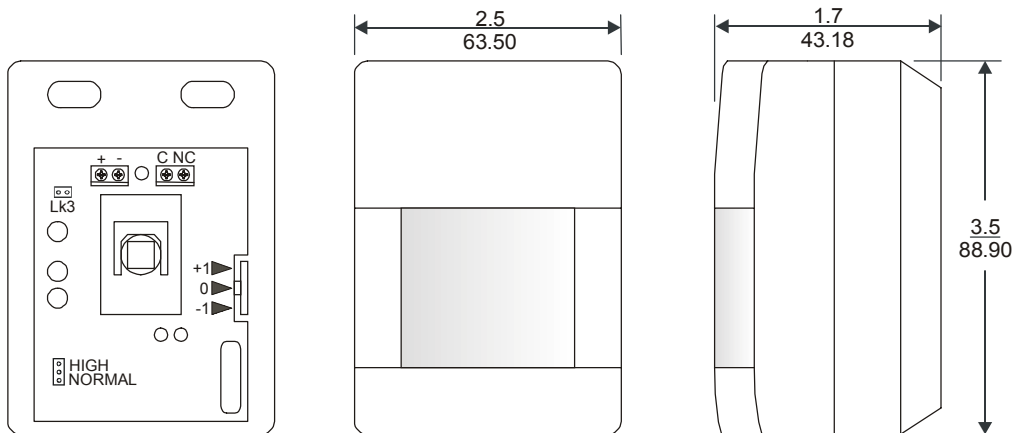

Figure 1: MRC19-PIRW Wiring Connections and Dimensions, in. (mm)
Refer to Figure 1 for wiring connections and dimensions. To wire the motion detector:
2. Turn the four screws on the detector's terminal strip counterclockwise to open them to accept the wires (see Figure 1).